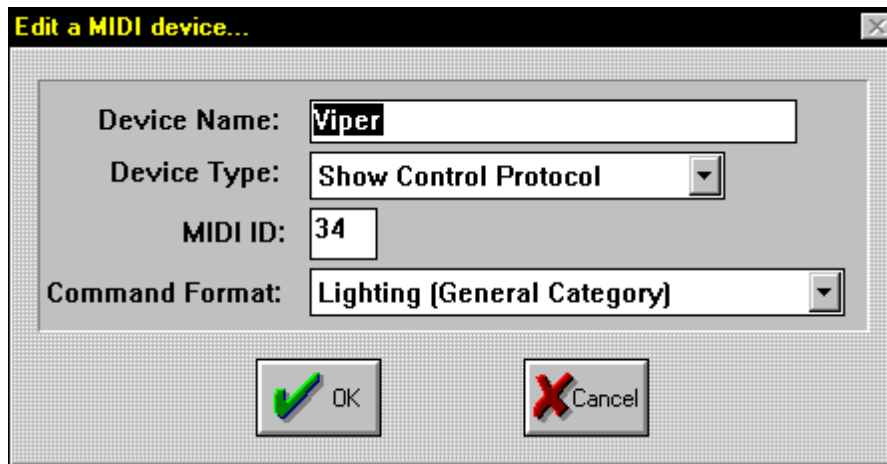

Figure 3.5. Edit a MIDI Device... Dialogue Box
3. Click the **Edit Device...** button to change the parameters of the device. This brings up the **Edit a MIDI Device...** dialogue box. Refer to Figure 3.5.